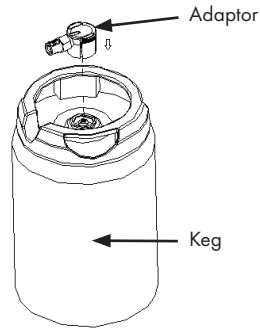
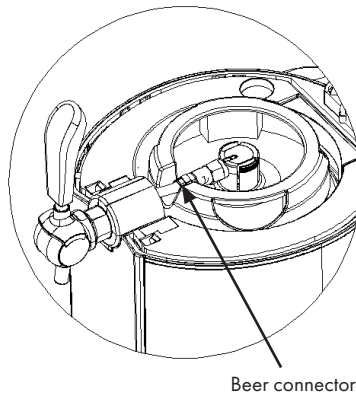

Figure 17
Figure 19
2. Follow the instructions on the beer keg to install the adapter (the nozzle) (see figure 17 and 18) supplied with the appliance. Connect the adapter to the tap connection. The beer connection is now connected (see figure 19).